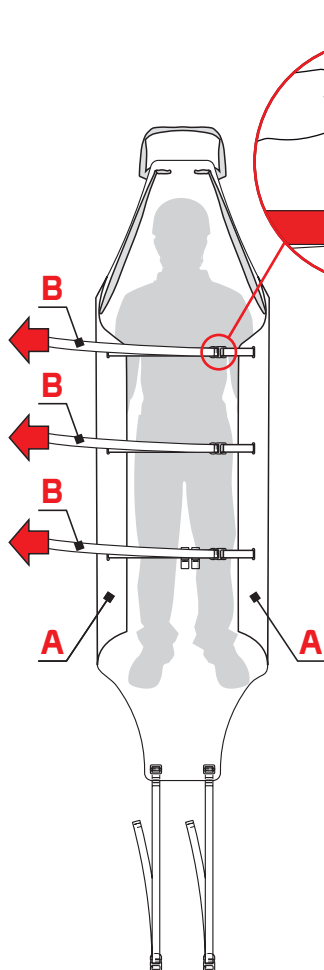

Fig.15
- Insert the buckles with hook (I) in the corresponding slings with eyelet (C) and tension the slings (B) to lift the side parts of the support surface (A) enough to contain the patient (fig. 15).